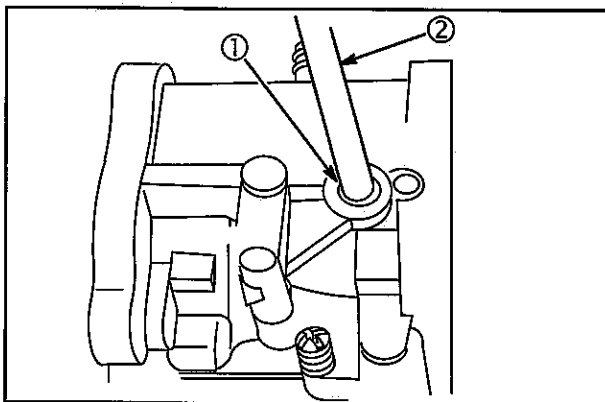

Fig. 33
1. Install new transitional hole idle port welch plug (1), **Fig. 33**.
2. Use a round punch (2). Tap in plug until it is flat.